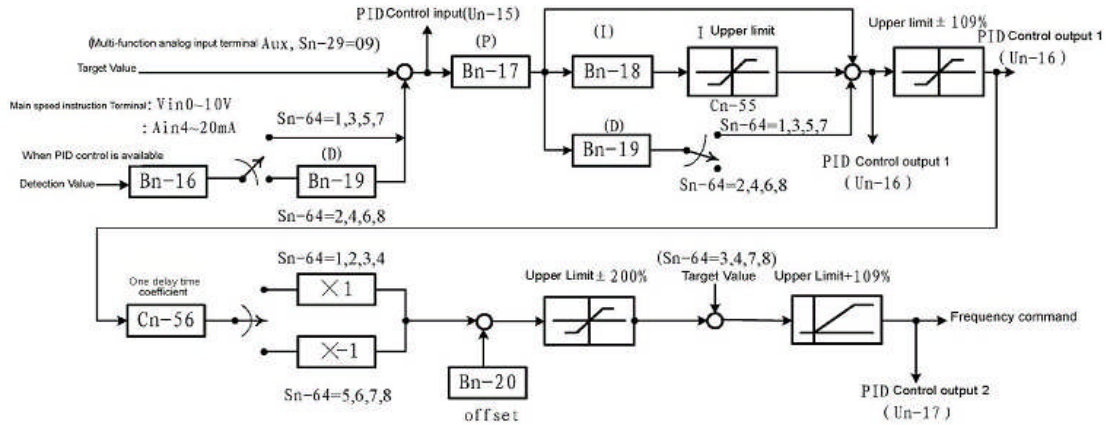

Fig.4-4 PID Control Pane
(16) PID inspection gain (Bn-16)
(17) PID proportion gain (P) setting (Bn-17)
(18) PID integral time (I) setting (Bn-18)
(19) PID differential (D) setting (Bn-19)
(20) PID bias (OFF SET) adjustment (Bn-20)
- Please refer to the Fig4-4[PID control pane]